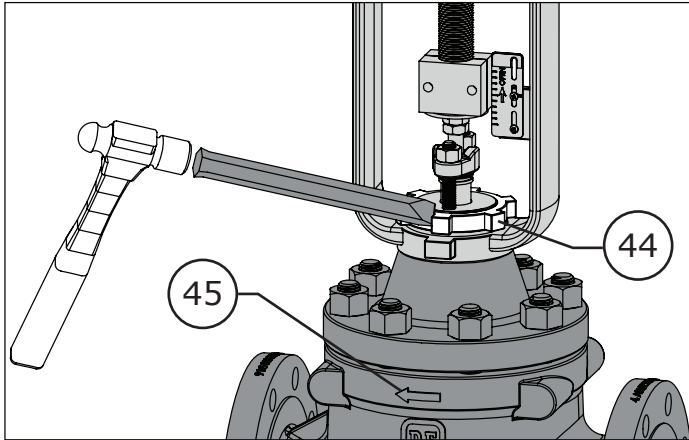

Figure 4 Yoke Nut being loosened with a Chisel
- 6 Use a blunted heavy chisel to loosen the yoke nut (Key 44). Unscrew the yoke nut and remove the actuator from the valve. If the actuator was energize during removal, de-energize the actuator (Refer to Figure 4).